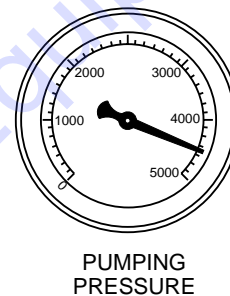

Figure 54. Pumping Pressure Gauge
3. The ***pumping pressure gauge*** (Figure 54) should read approximately 3100 ~ 3200 PSI.